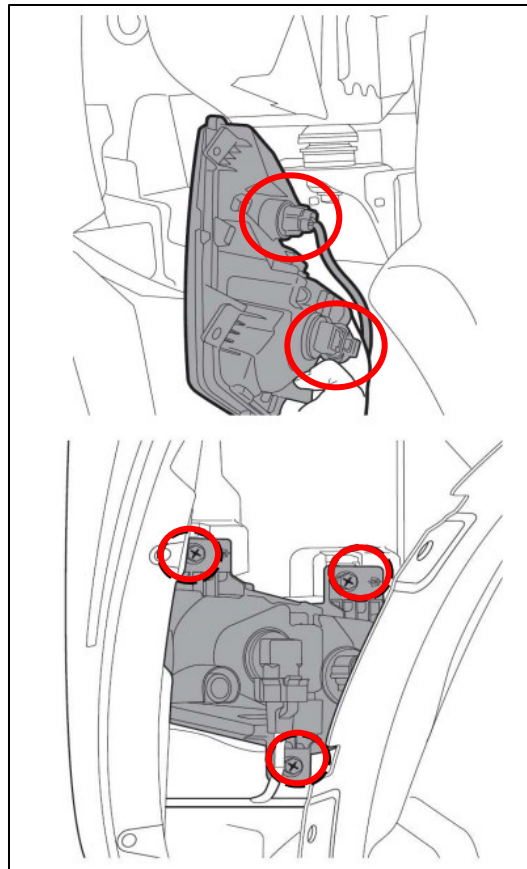

Figure 2
4. Disconnect the Connectors to the OE Fog Lights. *Figure 2.*
5. Remove the (3) three screws securing the OE Fog Lights to the Front Bumper and remove the Fog Lights. Retain the (3) three screws as they will be reused. *Figure 2.*